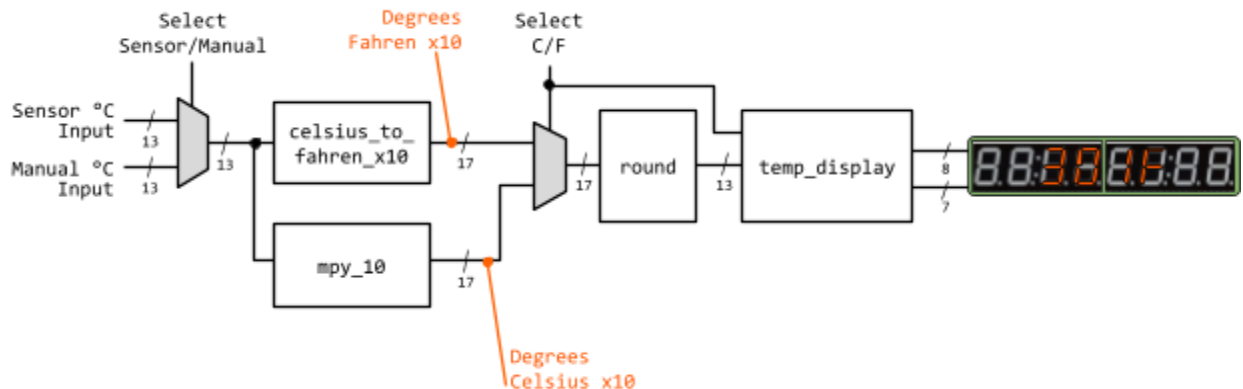

Figure 2. Module Configuration for Lab 1
4. Create a testbench to test each of your three modules. You may choose to test each module individually or together, as shown in Figure 2. When interpreting your module's output, remember that they are processing *fixed-point* values. This may impact how you interpret the results.
The provided top-level file, **lab01_top.sv**, instantiates the provided temperature sensor module. This module produces a 13-bit fixed point result in the signal named **temp_sensor**: This serves as the “Sensor °C Input” from Figure 2. The “Manual °C Input” should be taken from the switches.
- a. The logic for the top-level module is shown in Figure 2.